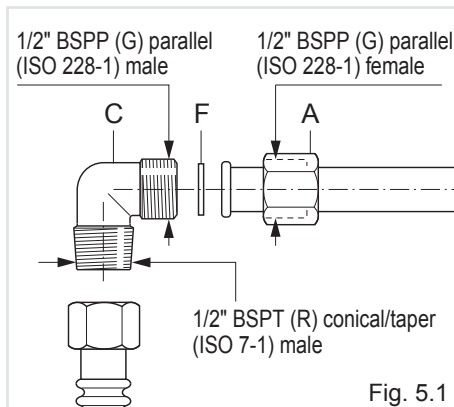
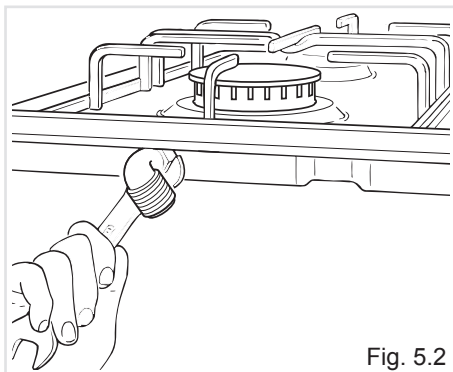

Fig. 5.1
Fig. 5.2
The fitting (fig. 5.1) is made up of:
- The gas inlet union can be turned in the direction required after the elbow fitting “C” and nut “A” connection (figure 5.1) has been slackened (fig. 5.2).
- The gasket “F” (fig. 5.1) guarantees the seal of the gas connection. It is recommended that it be replaced whenever it shows even the slightest deformation or imperfection.